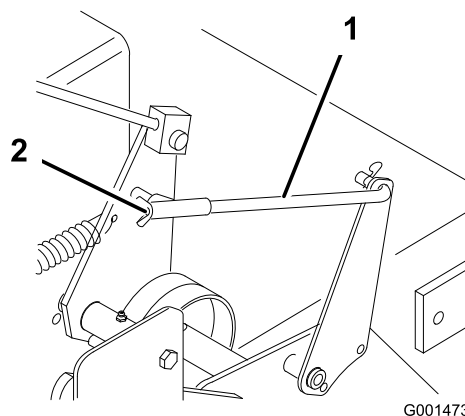

Figure 38
5. To adjust the brake, rotate the wing nuts on the brake rods (Figure 38). Turn the wing nuts clockwise to tighten the brake and counterclockwise to loosen the brake.